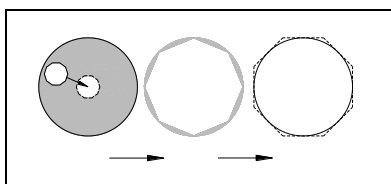

Fig.39
(8) Open the field diaphragm gradually. If the image of field diaphragm is inscribed to the view field, it means the field diaphragm had been centered. (See Fig. 39)
(9) In actual use, please open the field diaphragm a little to make it ex-scribed with view field in order to obtain better image.